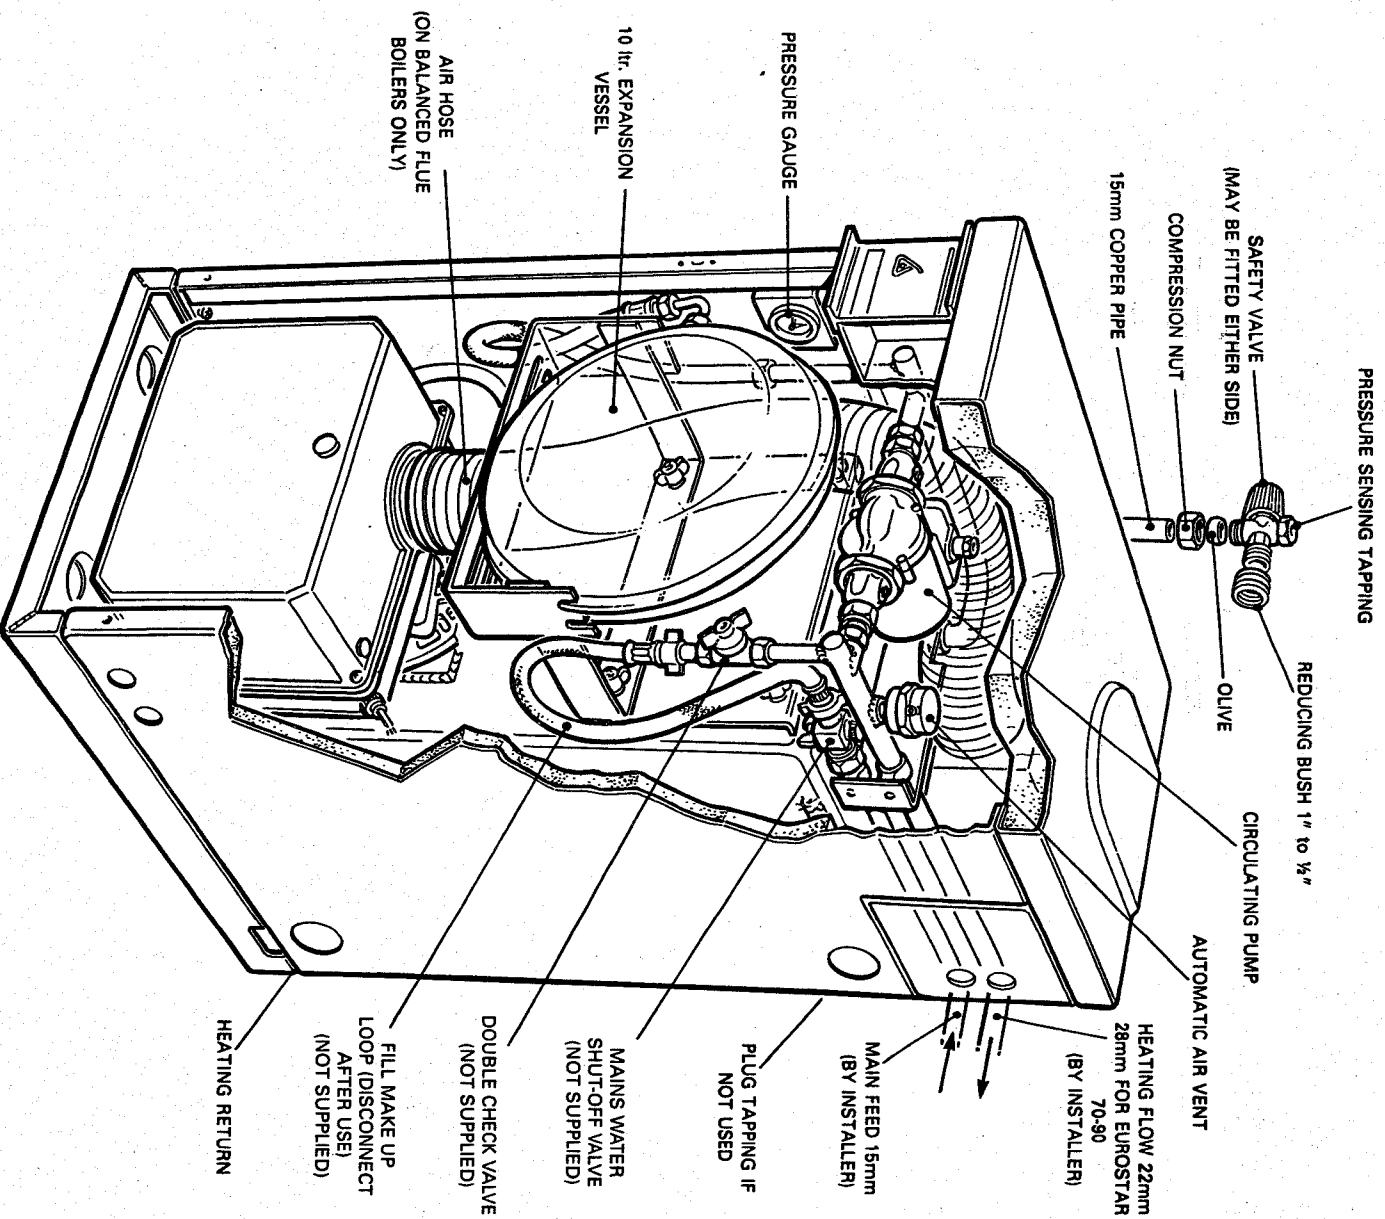

FIG. 2 TRIANCO EUROSTAR SYSTEM BOILER
- (See Fig. 2 for location of components).